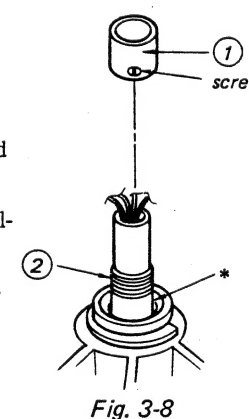

Fig. 3-8
6. Clean the portion marked * in Fig. 3-8.
7. Put fourteen cleaned steel-balls into the portion marked by * in Fig. 3-8.